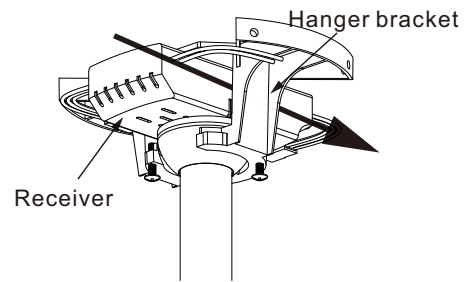

Figure 15
**Step 1.** (Fig. 15) Insert the receiver into the hanger bracket with the flat side of the receiver facing the ceiling.